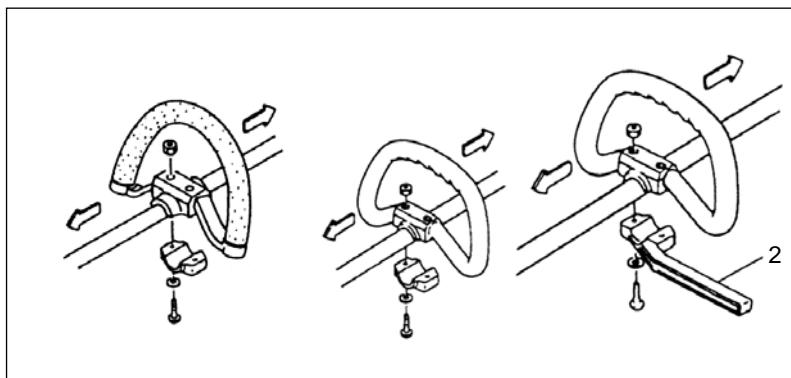

Fig.1-2
**When you use steel/rigid blades on straight shaft trimmers or brush cutters, always use barrier bar (2) and shoulder harness with the loop handle. (Fig.1-2)**